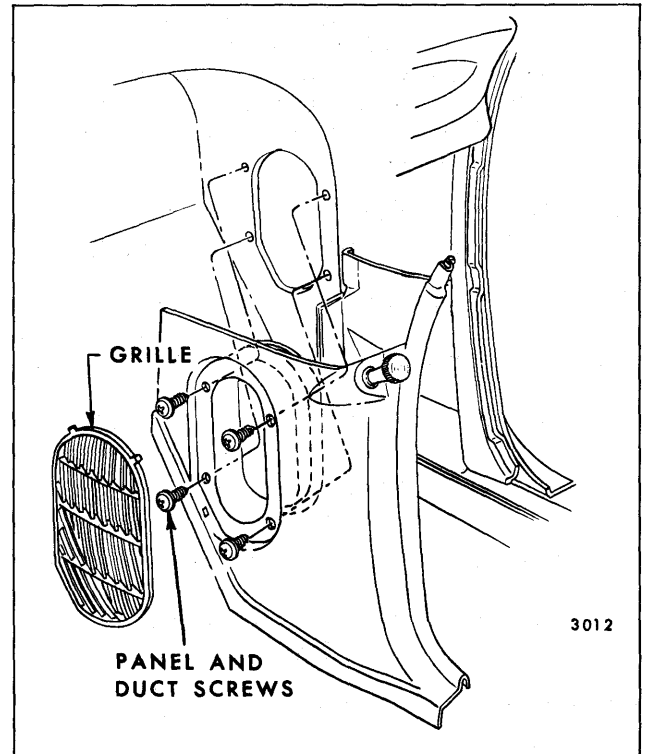

Fig. 5-5—Shroud Side Finishing Panel and Air Outlet Duct Assembly "A, F, X & Z" and 26657 Styles
2. On "A, Z" and 26657 Styles pry the grille from the finishing panel with a flat-bladed tool (screwdriver or equivalent) as shown in Figure 5-5.
3. On all styles, remove screws attaching finishing panel and duct assembly to the shroud ventilator duct side panel (Fig. 5-5).